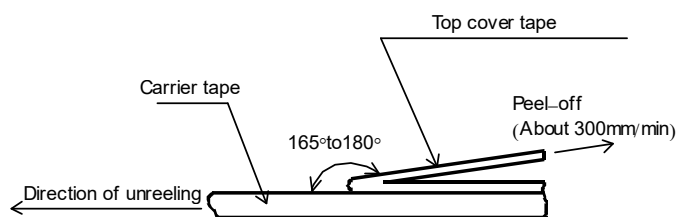
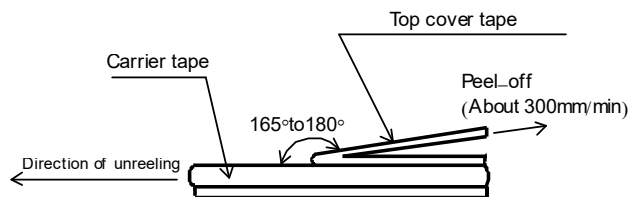
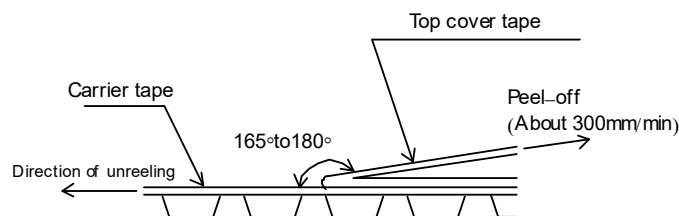

Figure-7
Figure-8
Figure-9
- 5). The peel strength of the top cover tape shall be within 0.1N to 0.5N on the test method as shown in the following RMSW06: Figure-7, RMSW10,16,20,32: Figure-8 and RMSW35 Figure-9.